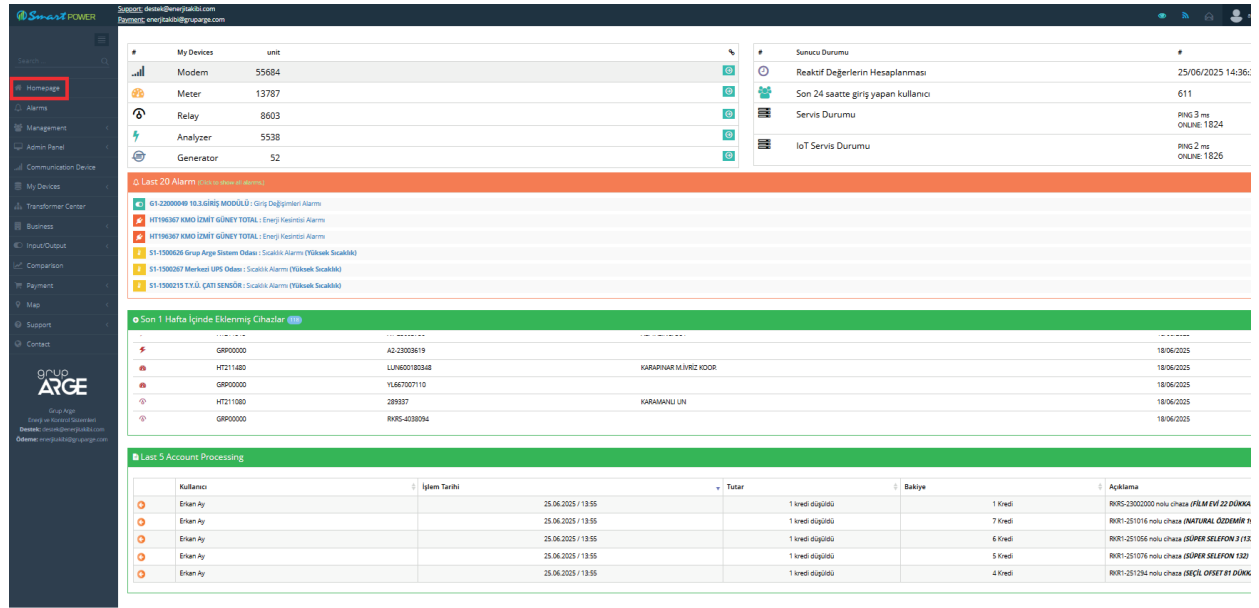

Figure 6.2
4. Upon logging in, the homepage will appear (see Figure 6.2).